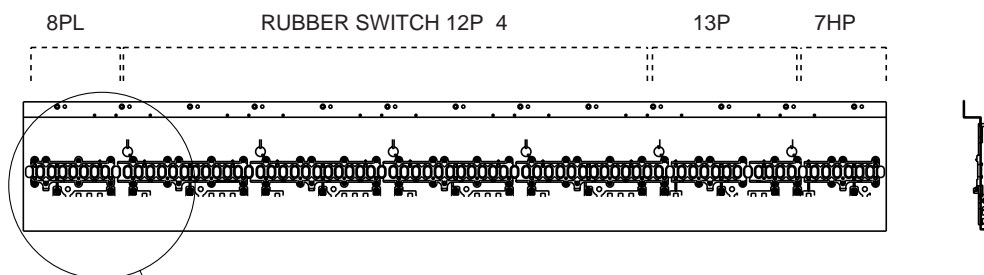

Fig. 1
1) Turn the chassis over as shown in Fig.1.